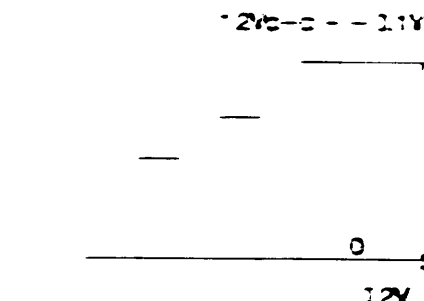

Fig 2.
- 1: Adjust the Sub colour (R305) to set the drive voltage to 2.3V ± 0.1V. See Fig 2.